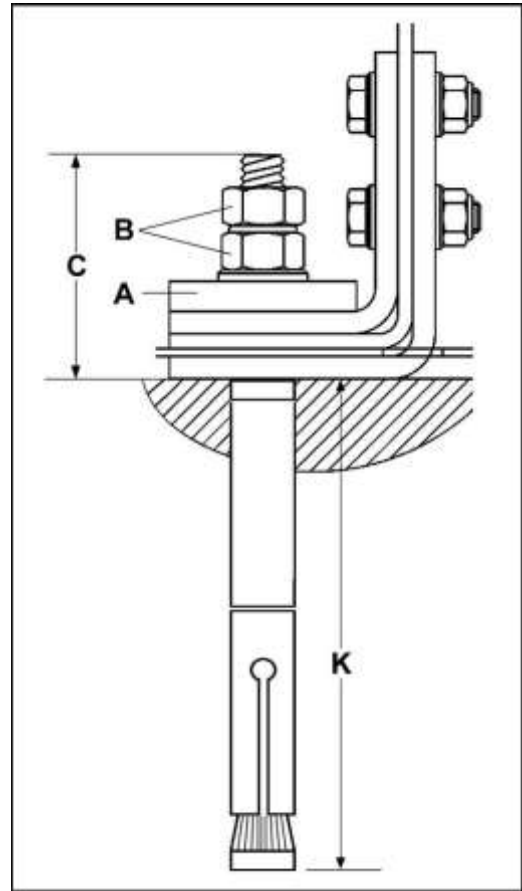

Fig. 2.6
**THIS FASTENING SYSTEM ALLOWS FOR THE IMMEDIATE USE OF THE WASHER BUT IT CAN ONLY BE APPLIED IF THE RESISTANCE OF THE FLOORING MATERIAL IS EQUAL TO OR GREATER THAN 25 N/mm2 (4000 psi) AND ITS THICKNESS IS GREATER THAN 50 mm (2 in) IN VALUE K ON FIGURE 2.6.**
#### Characteristics of the metal anchors (Fig. 2.6):
The fastening of the machine must be done by using the bolting down flat washers supplied with the machine (Fig. 2.6/**A**). THESE FLAT WASHERS ARE ESSENTIAL TO THE SECURE FASTENING OF THE WASHER.
Set the flat washers and tighten the nuts and locknuts (Fig. 2.6/**B**).